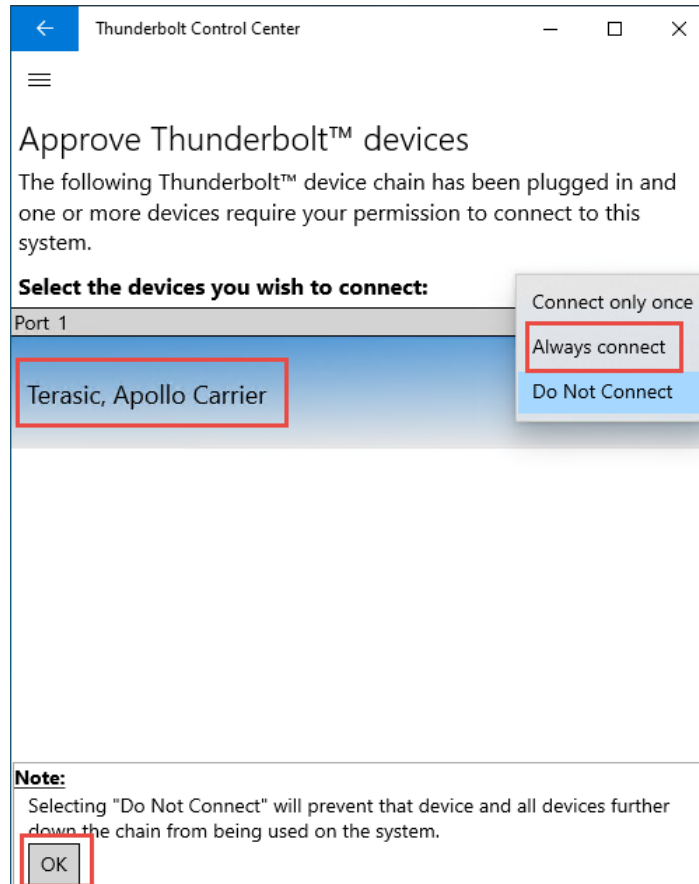

Figure 4-5 Approve Thunderbolt device window
5. A Thunderbolt Dialog window will appear as shown in **Figure 4-5**. Select “Always Connected” and click OK button.